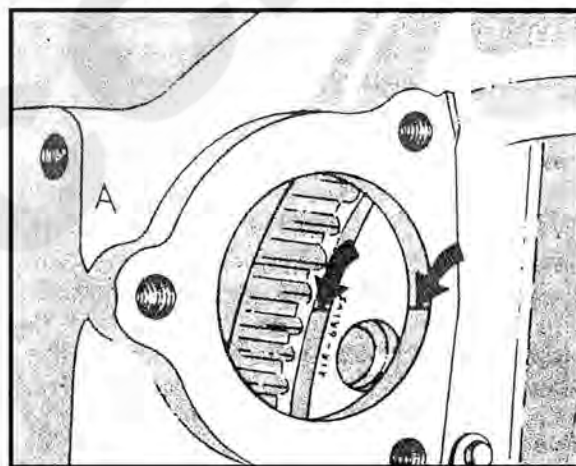

Fig. 2-24 "VS" marks location "A"
3. When barring an engine from the right bank side at the flywheel housing, the "VS" marks on the flywheel (Fig. 2-24) must be aligned with the scribe mark on the flywheel housing.